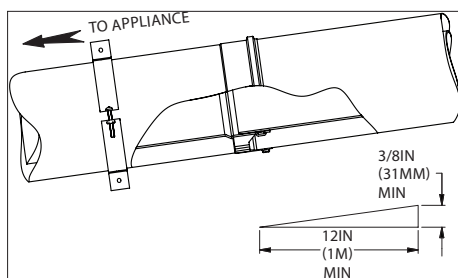

Figure 20
3. All vent pipes must have a minimum slope of at least 1.8° (3/8in rise per ft run, 31mm rise per meter run) back to the appliance. Ensure there are no dips in the system where condensate can collect. **(Fig.20)**
4. The venting system shall be securely supported using suitable hangers. DuraVent hardware is recommended however field supplied support hardware, such as all-thread or plumbers tape, approved by the AHJ is acceptable. Hardware must be fixed to a rigid surface such as a wall, stud, or framing, and must not deform or damage the vent **(Fig. 20 and 21)**. Make sure the load of the vent system is not supported by the appliance.